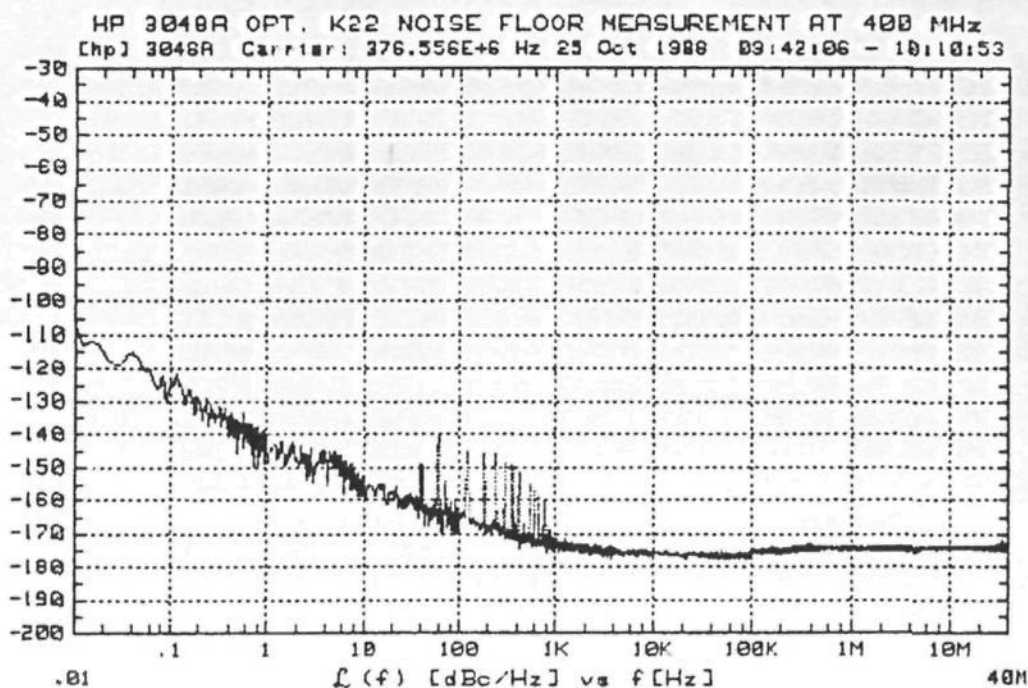

Figure 3-4.
7. Connect the HP 3048A Option K22 noise floor fixture to the right RF amplifier and repeat steps 2 thru 6. Figure 3-4 shows a typical noise floor plot of the HP 3048A Option K22 amplifier.